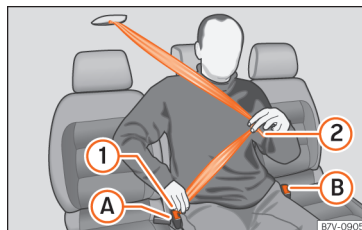

Fig. 14 Fasten the seat belt on the centre seat in the second row of seats
- Use latch plate of the belt » Fig. 14 ① to pull the seat belt down. Do **not** twist the seat belt when doing so » ⚠.
- Engage the latch plate ① in the buckle of the corresponding seat A.
- Use the latch plate » Fig. 14 ② to pull the seat belt across your lap.
- Engage the latch plate ② in the buckle of the corresponding seat B.
- Press the red button on the buckle » Fig. 14 A. The latch plate will come out of the buckle.
- Press the red button on the buckle » Fig. 14 B. The latch plate will come out of the buckle.